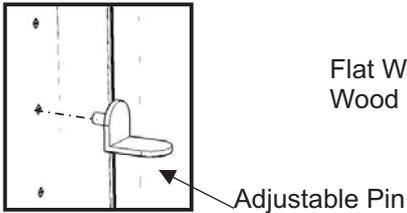

Figure 2
Insert Adjustable Pins into side panels and middle panels at the desired level (see Figure 2), then place Shelves (L) and (M) into position.